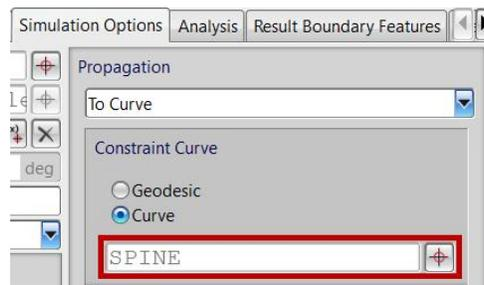

Figure 5–45
6. Link **Spine** for *Constraint Curve* as shown in Figure 5–45.